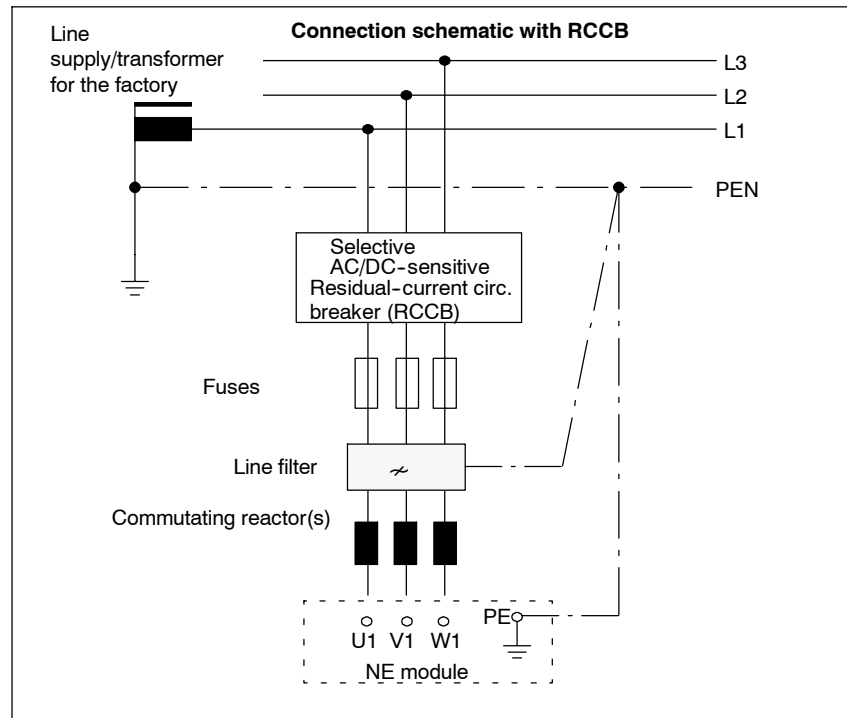

Fig. 7-4 Residual-current circuit-breaker (RCCB) connection schematic
- It is only permissible to use a delayed-tripping, (selective) AC/DC current-sensitive residual-current protective device (RCCB) (connection as shown in Fig. 7-4).